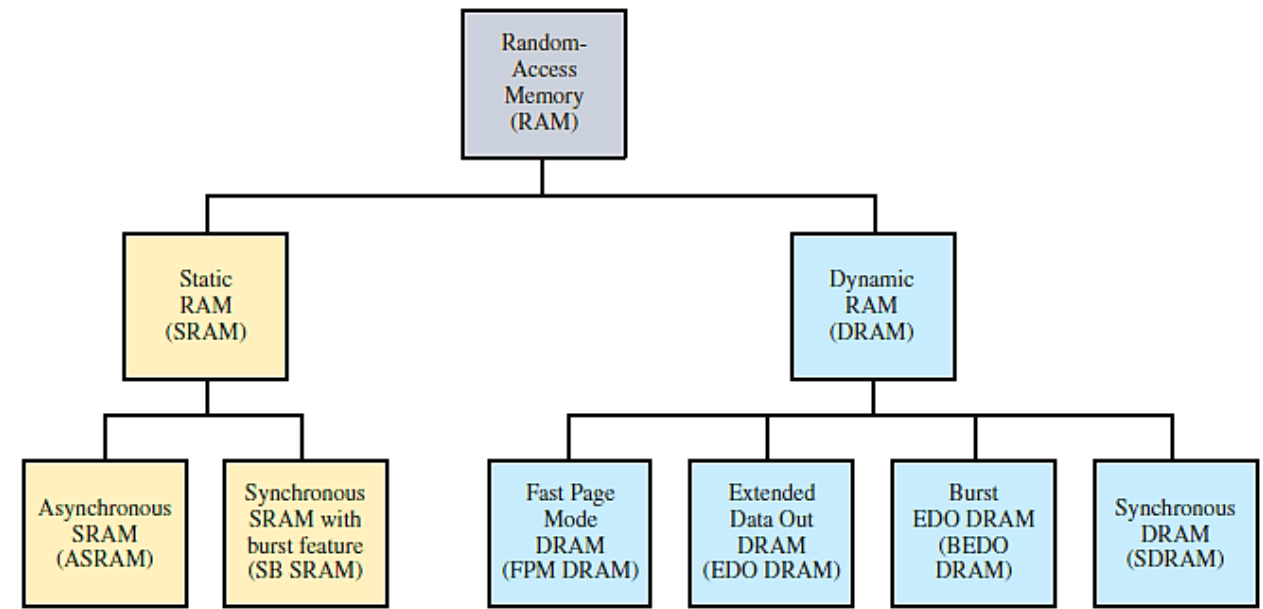

FIGURE 1 The RAM family.
- ❑ The basic types of SRAM are the asynchronous SRAM and the synchronous SRAM with a burst feature. The basic types of DRAM are the Fast Page Mode DRAM (FPM DRAM), the Extended Data Out DRAM (EDO DRAM), the Burst EDO DRAM (BEDO DRAM), and the synchronous DRAM (SDRAM). These are shown in Figure 1